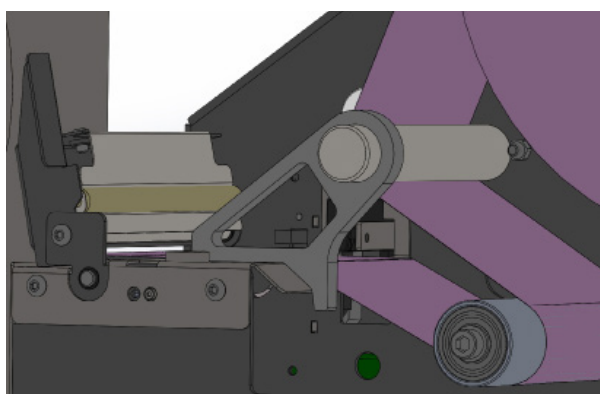

FIG. 3
- open the mechanism cover (7)
- load the media as displayed and put the guides back (FIG.3)